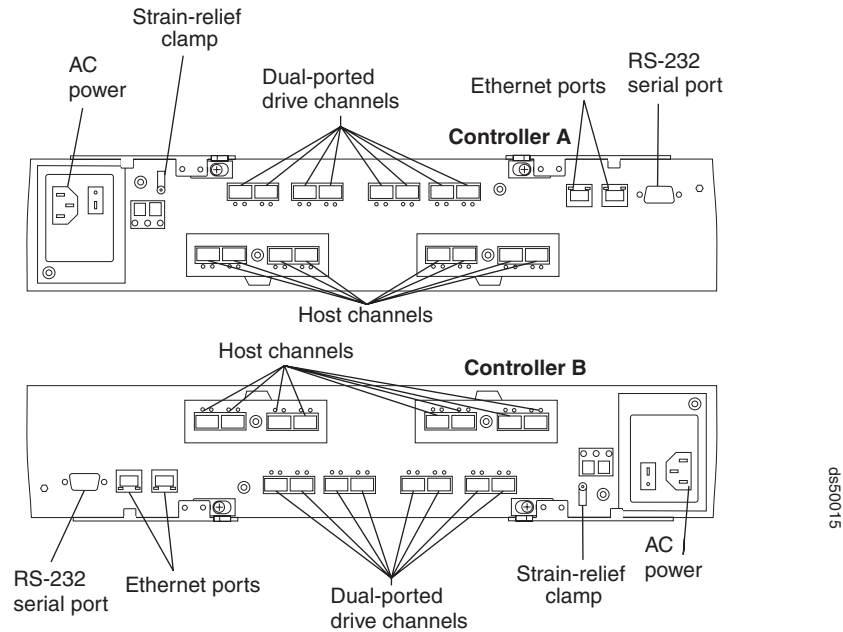

Figure 120. Connectors on the back of each controller. Each host channel is different, dependent on the host interface card.
9. Disconnect all attached interface cables from the controller you are upgrading or replacing, including the SFP modules. Ensure that you label each cable so that you can reconnect them correctly to the new or upgraded controller. Figure 120 shows the location of the connectors on the back of a controller.